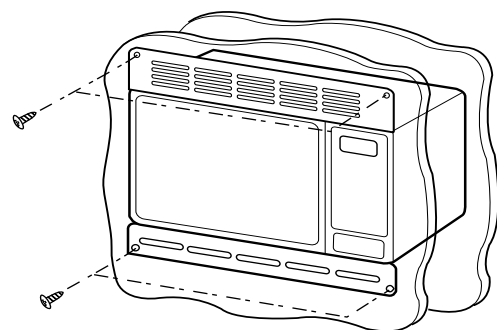

FIGURE 5
5. SCREW THE UPPER AND LOWER TRIM ONTO THE CABINET USING FOUR 16 mm SCREWS. SEE FIGURE 5.